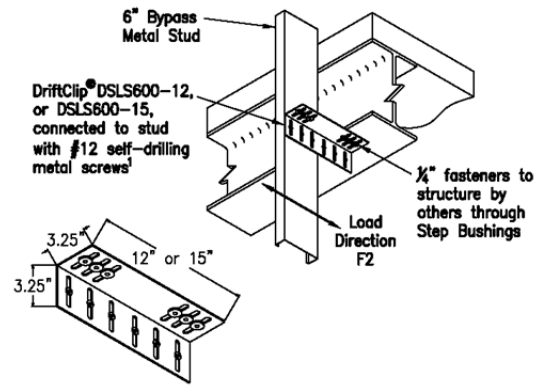

Figure 2 – DriftClip® DLSL600-12 and DLSL600-15
**3.1.3 DriftClip® DSLS:** DriftClip® DSLS600-12 and DSLS600-15 are L-shaped angles that connect 6-inch-deep (152 mm) cold-formed steel framing of exterior curtain walls to a building's structural steel spandrel beam or structural concrete floor slab, while allowing a maximum of 2 inches (51 mm) of vertical and horizontal movement between curtain wall elements and the primary structure. The minimum base-metal thickness of the clips is 0.0966 inch (2.5 mm). The -12 and -15 following the model number DSLS600 represent the total length, in inches, of the connector. The two legs of the DriftClip® DSLS600-12 and -15 connectors are equal in length, and each has two or three slots perpendicular to the heel of the angle, each  $\frac{3}{8}$  inch (9.5 mm) wide by  $2\frac{3}{8}$  inches (60 mm) long. The leg which is fastened to the curtain wall stud has bushings designed for No. 12 self-drilling/self-tapping steel screws installed in the centers of the slots. The other leg, which is fastened to the structure, has bushings designed for  $\frac{1}{4}$ -inch-diameter (6.4 mm) fasteners installed in the centers of the slot. Refer to Figure 2 for overall dimensions of each DriftClip® DSLS connector and a typical installation detail.